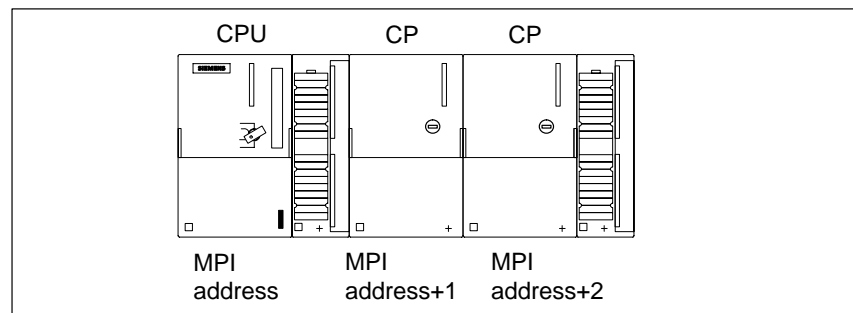

Figure 8-6 Automatic MPI Address Assignment for Modules
Communications processors (CP) and function modules (FM) with their own MPI address have a special feature: their MPI address is calculated automatically by the CPU according to the pattern shown in Figure 8-6: